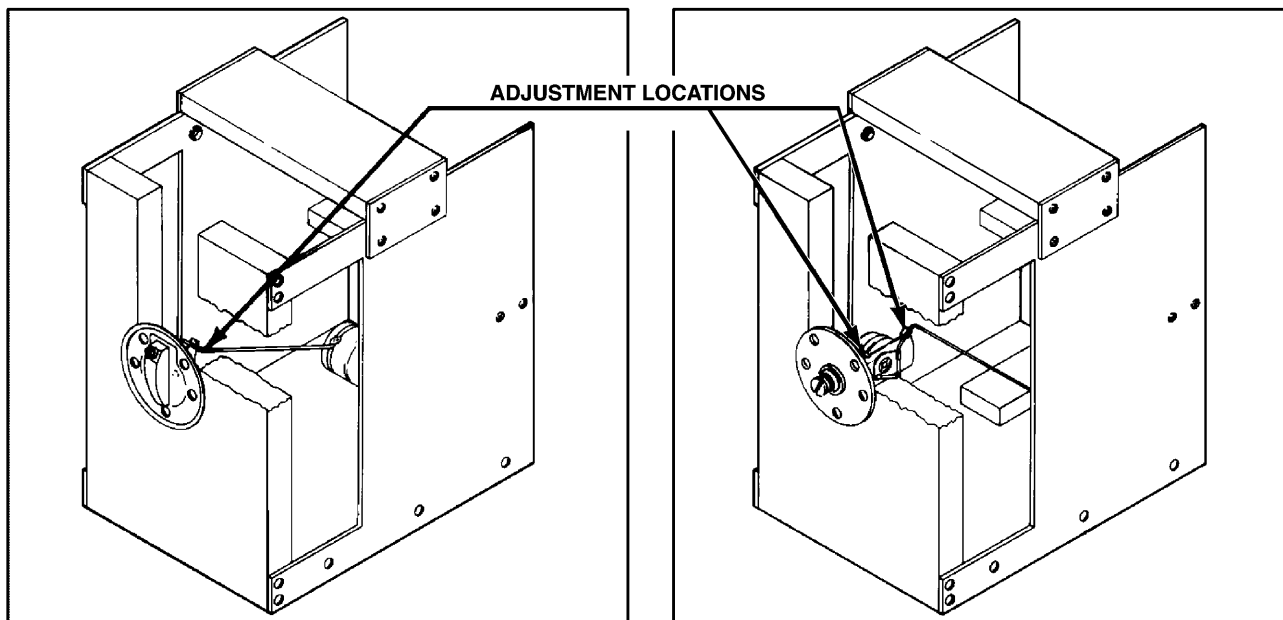

Figure 9-6. Fuel Quantity Transmitter
(P/N's 62037-00 or 68101-00 only. Refer to Figure 9-6 or 9-7.)
2. Ascertain that with the float arm down against the mechanical stop on the transmitter, the float is just touching (The float may be to .18 of an inch above base.) the base of the jig. Should the float not be touching the base or the float arm is not against the bottom stop, adjust the arm of float assembly, P/N 62037-00, by bending it at the location as indicated in Figure 9-6 or the arm stop of float assembly, P/N 68101-00, by bending it where shown in Figure 9-7. (On rubber type floats, the entire surface of the float must be horizontal with the base of jig.)